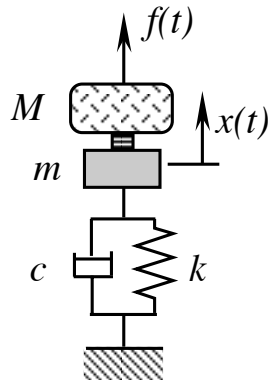

Figure 8: Actuator with a proof mass
6. This is an old exam problem of Spring Quarter of 2004 Commercial piezoelectric actuators can be modeled as a spring-mass-damper system as shown in Fig. 8, where m , c , and k , are the mass, damping, and stiffness of the actuator. When a voltage is applied to the piezoelectric actuator, it is equivalent to applying a force $f(t)$. The actuator also has proof mass M to calibrate the actuator and to changes the natural frequency of the actuator. Answer the following questions.